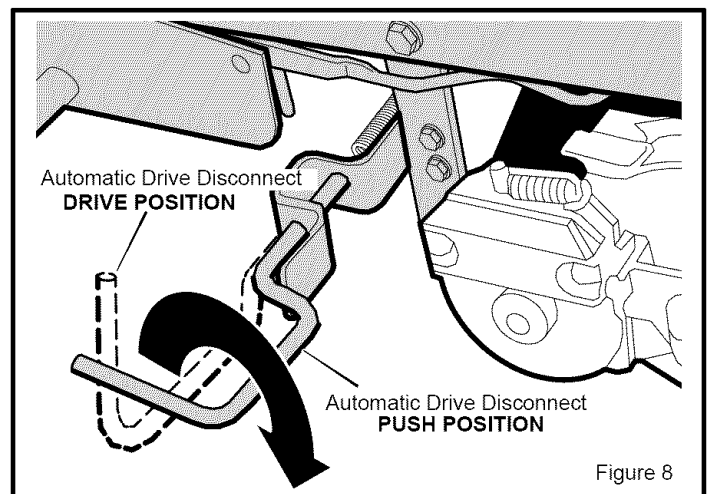

Figure 8
To push the unit, use the **automatic drive disconnect** to release the transmission. (Figure 8)
3. Move and latch the **automatic drive disconnect** in the **PUSH** position (Figure 8). The transmission is now *released* and the unit can be pushed.
1. The **automatic drive disconnect** must be in the DRIVE position (Figure 8).